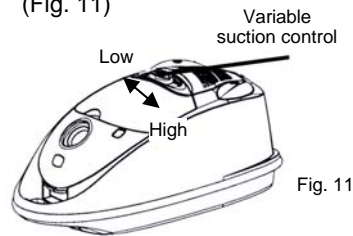

Fig. 11
2. To return to powerful suction control slide the variable suction control button to the right until it stops. (Fig. 11)